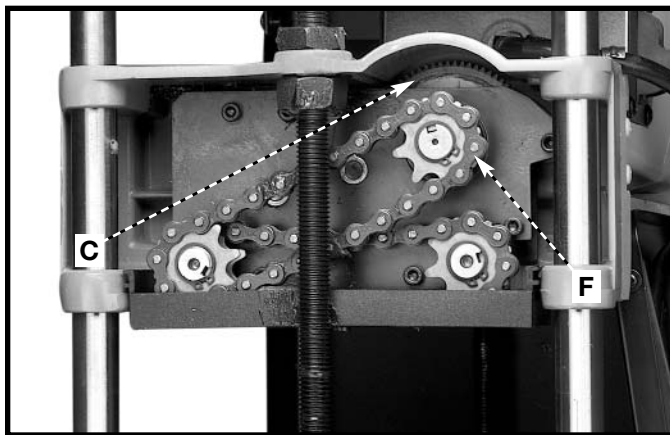

Fig. 29
2. Place a light coat of E.P. multi-purpose grease on the teeth of the large gear (C) Fig. 29, and a light coat of spray lubricant on the chains (F). Replace the side cover.